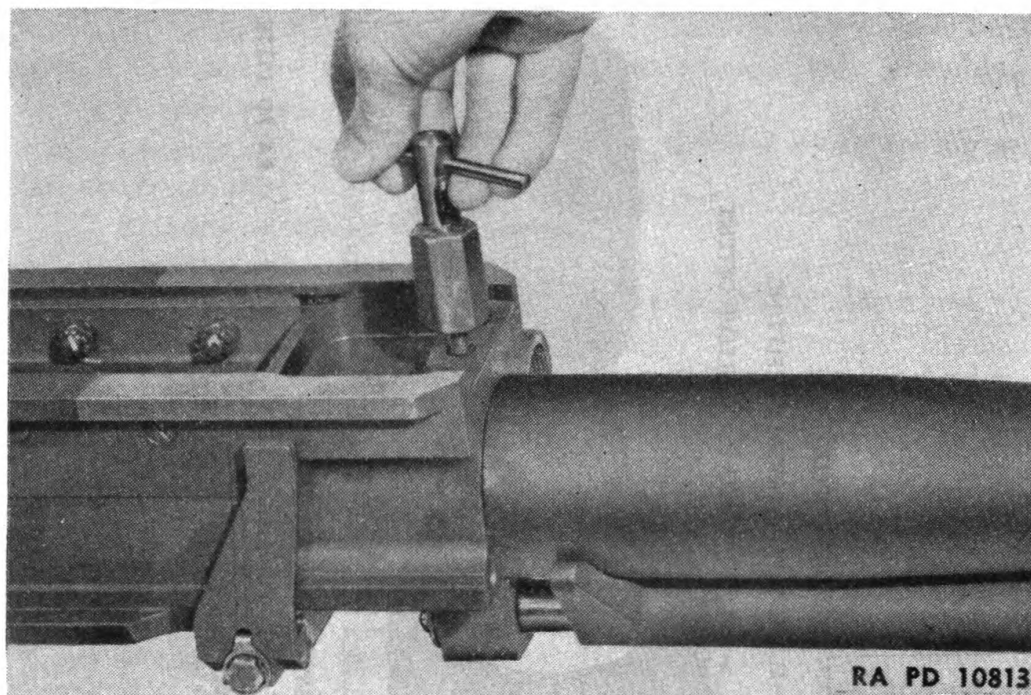

FIGURE 4.—Removing tube locking pin.
*e. Tube assembly*.—(1) Remove gas cylinder sleeve as described in TM 9-227.
(2) Remove cotter pin from lower front part of the receiver.
(3) Screw tube locking pin tool into tube locking pin and remove the pin by turning the tool (fig. 4).
(4) Unscrew tube assembly from the receiver.